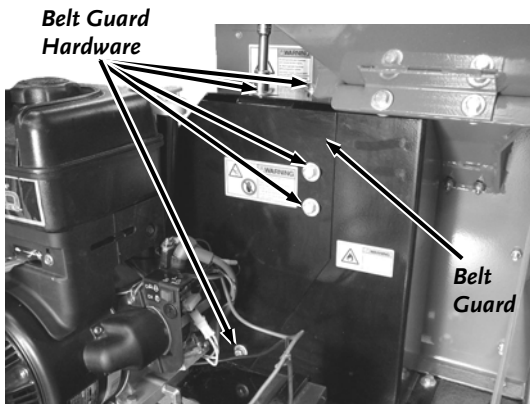

Figure 26
1. Remove the eight Bolts, Lock Washers and Flat Washers from the Belt Guard using a 1/2" Wrench (**Figures 26 and 27**).
- 12. Reinstall the eight Bolts, Lock Washers and Flat Washers using a 1/2" Wrench (**Figures 26 and 27**).